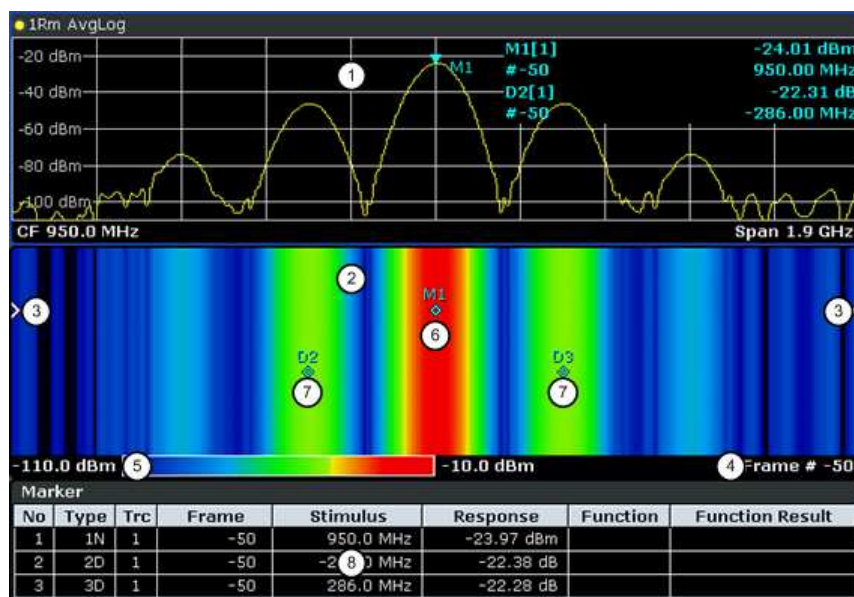

Fig. 4-20: Screen layout of the spectrogram result display
- Spectrum Analyzer result display (1 in figure 4-20)